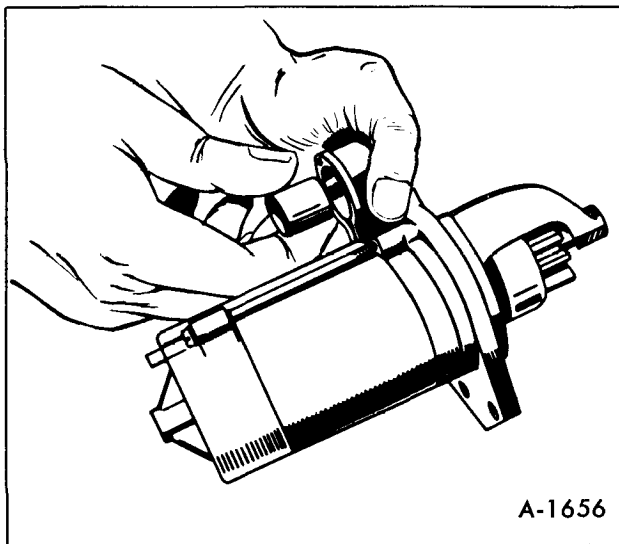

Figure 68—Installing Solenoid Plunger
11. Install the solenoid plunger over the top of the shift lever in the front bracket as shown in Figure 68. Be sure that the pinion gear is moved when the plunger is pulled manually.